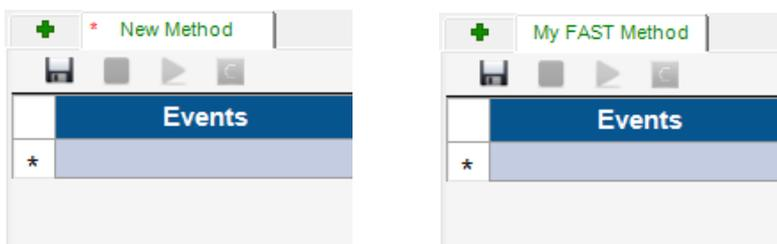

Figure 14-33. Blank ESI FAST template (left), once saved (right)
4. The FAST method tab initially shows the name *New Method* with an empty grid, see Figure 14-33. Each line of the grid can contain one action in the FAST method. All actions are carried out in order from top to bottom of the grid.